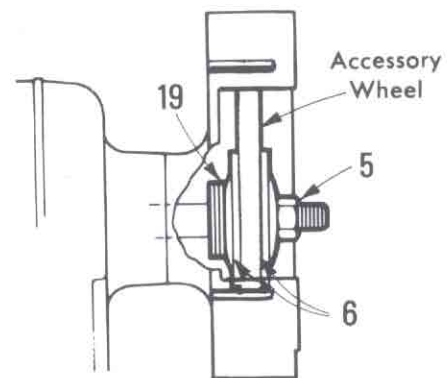

FIGURE 3
6. The illustration shows how the washer spacers (19) are attached to your grinder when accessories are used. See figure 3.